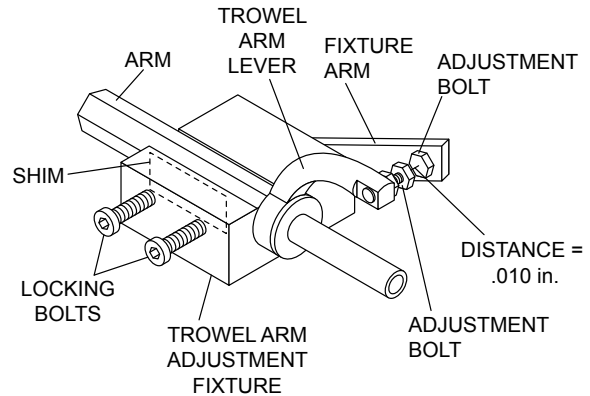

Figure 44. Trowel Arm Adjustment Fixture Components
- Unscrew the locking bolts on the adjustment tool and place the trowel arm into the fixture channel as shown in Figure 44. A thin shim may be required to cover the blade holes on the trowel arm. Make sure to align the trowel adjustment bolt with the fixture adjustment bolt.
- Adjust the bolt "distance" shown in Figure 44 to match one of the arms. The other arms will be adjusted to match this distance.